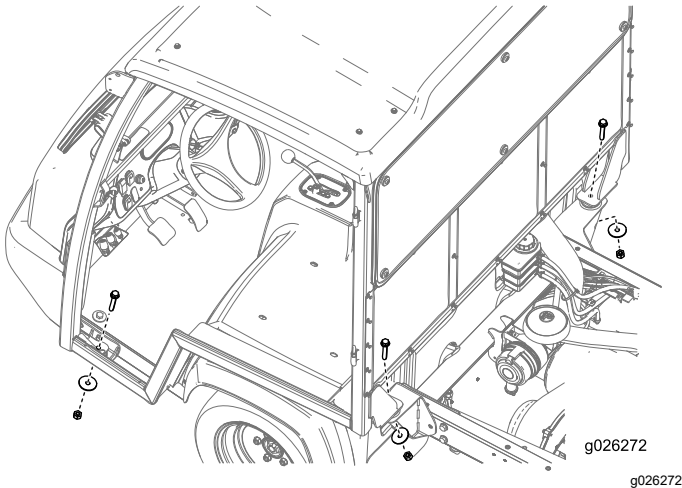

Figure 32
6. Secure the frame to the machine using the 4 bolts (1/2 inch), 4 washers (1/2 inch), and 4 nuts (1/2 inch) as shown in Figure 32.